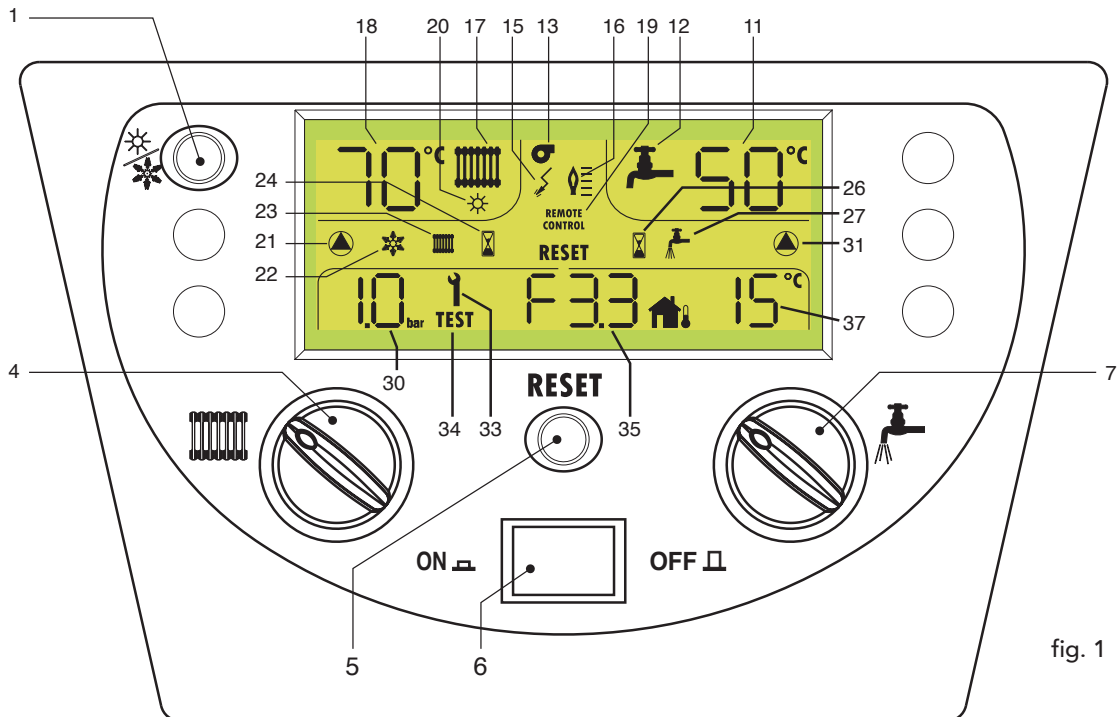

fig. 1
To reset the boiler, press Reset (5 - fig. 1).
This appears when the SUMMER mode is activated (☀️ - 1 fig. 1).
- Press the ON/OFF key in to turn on boiler (see fig. 1).
Press the ON/OFF key (see fig. 1).
To select either mode, simply press the key  (1 - fig. 1).
If together with the fault the display also shows **RESET**, the user must reset boiler operation by pressing the key  (5 - fig. 1). The ignition cycle will thus be repeated.